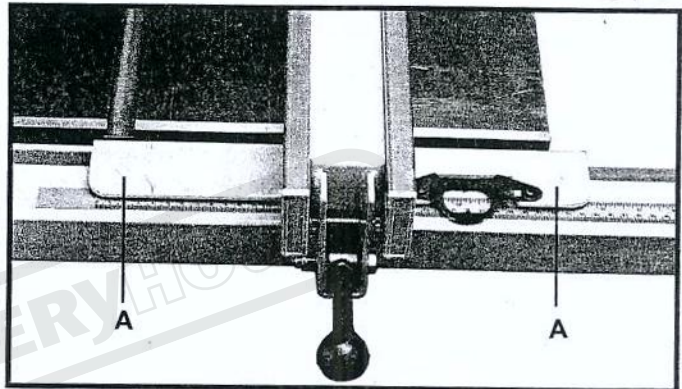
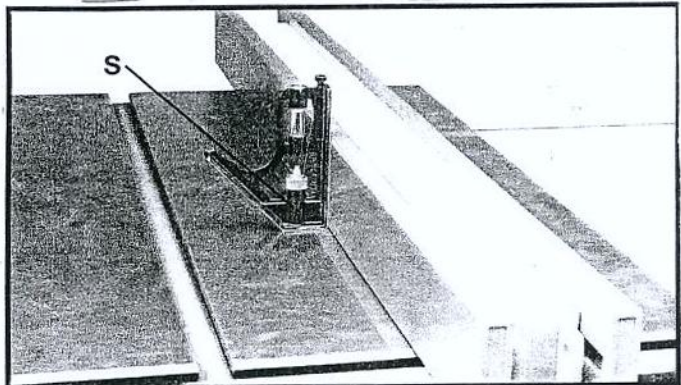
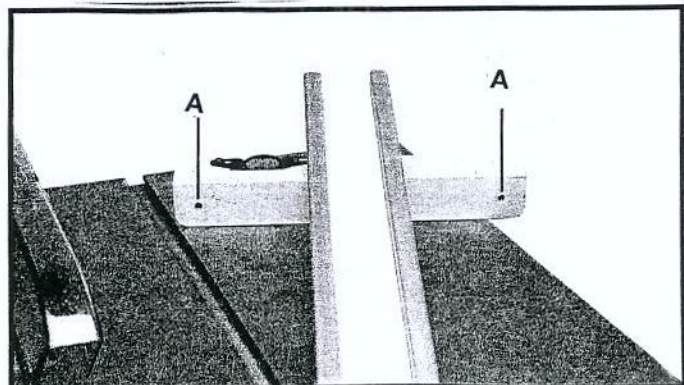

FIG 2
FIG 3
Fig. 4
1. Installation and removal of arbor extension . . . . . Page 5, Section A (4)
2. Installation and removal of saw blade . . . . . Page 5, Section A (5)
3. Adjustment of table parallel with saw blade . . . . . Page 5, Section A (8)
4. Adjustment of blade guard . . . . . Page 7, Section C (5)
B. BLADE HEIGHT ADJUSTMENT (Figure 4)
3. The blade height mechanism has upper and lower limit stops (Figure 3, Ref. Nos. 12 and 63). These limit stops are set at the factory and need no further adjustment.
C. BLADE TILT ADJUSTMENT (Figure 4)
- i. Loosen locknut (Figure 3, Ref. No. 31) on adjusting screw (Figure 3, Ref. No. 33) and turn adjusting screw clockwise.
- iii. When exactly at 90°, turn adjusting screw (Figure 3, Ref. No. 33) against the lug on the front trunnion (Figure 3, Ref. No. 27). Do not turn too far. Recheck 90°.
- iv. Tighten locknut (Figure 3, Ref. No. 31) securely.
- v. Check tilt indicator pointer. If necessary adjust pointer so it points to the "0" degrees mark on the scale. To adjust pointer, remove hand wheel (Fig. 4, Ref. No. 30) and loosen screw (Figure 3, Ref. No. 21). Be sure to tighten screw securely after adjustment is completed.
- d. If 45° adjustment is necessary, adjust 45° stop in the same manner as the 90° stop. The only exception is that the adjustment bolt and locknut (Figure 3, Ref. Nos. 32 and 31) are on the other end of the rack. Adjust the indicator if necessary.
THIS 12" SAW FENCE BRACKET THERE IS TWO NYLON SCREW (SEE FIG 2)A) CAN BE ADJUST RAISE OR LOWER TO CONTROL THE FENCE 90° TO THE TABLE, USED A SQUARE ON THE TABLE NEXT TO THE FENCE UNTIL THE FENCE IS 90° TO THE TABLE BY ADJUSTING SCREW. (SEE FIG 3).
PLACE THE FENCE NEXT TO THE EDGE LINE OF THE MITRE SLOT AND LOCK IT THE FENCE MUST BE EVEN WITH THE MITRE SLOT FROM FRONT TO REAR. IF NOT, ADJUST ONE OF TWO SETS SCREW LINE (SEE FIG 4)A) UNTIL THE FENCE IS EVEN WITH THE MITRE SLOT EDGE LINE ALONG ITS WHEN BE LOCKED.
- c. ADJUST TWO SET SCREWS WITH 4mm ALLEN WRANGE UNTIL THE FENCE IS HELD SECURELY (SEE FIG 4)A) WHEN THE LOCK HANDLE IS PUSHED DOWN.
A BOTH OF INCHES AND METRIC MEASURE SCALE HAS BEEN BUILT ON THE GUIDE RAIL AT THE FACTORY WHEN THE FENCE LEFT SIDE NEXT THE BLADE RIGHT SIDE LINE LENS INDICATE SHOULD BE POINT ON THE "0" POSITION IF NOT LOOSE 2 ROUND HEAD SCREW REMOVE LENS INDICATE BRACKET TO POINT ON "0" POSITION (SEE FIG 4).
Dado sets have different characteristics than saw blades. As a result, the table saw must be fitted with special parts that are furnished with the saw. The Dayton stationary saw dado set maximum capacity is 5/8" I.D. x 8" O.D. x 13/16" width. When using a dado set the following parts must be substituted (see Figure 3):
- Dado table insert (Figure 4, Ref. No. 52)